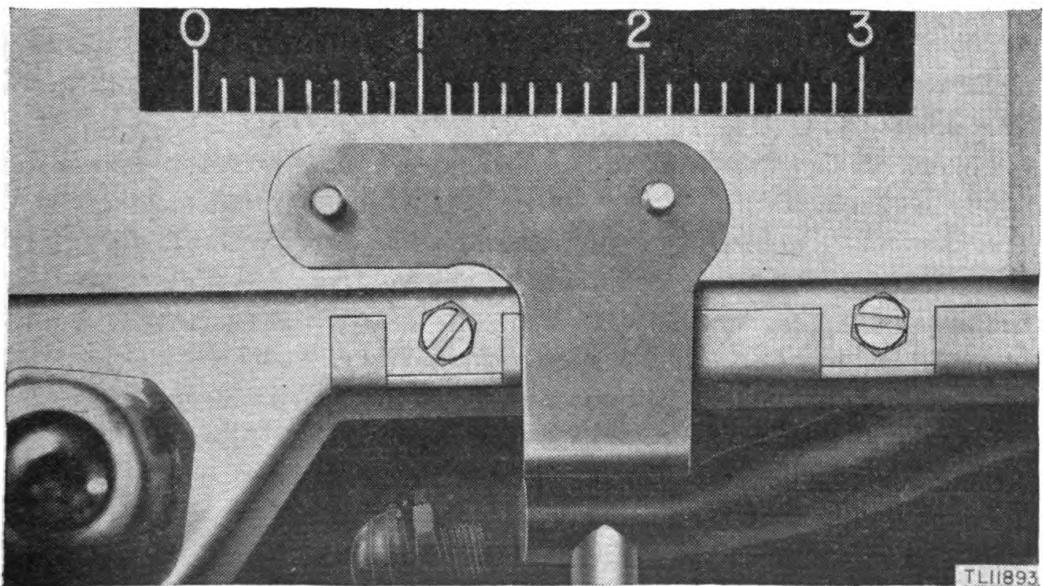

FIGURE 19.1.—Front view of bracket for battery vent tube.
- (1) Examine the rubber vent tube and replace if necessary.
- (2) Make sure the battery vent holes are clear.
- (3) Make sure the battery filler cap is in place.
- (4) Always keep the set in a vertical position to prevent spilling of the battery electrolyte.
21.2. (Added.) Securing battery vent tube.—a. Radio Sets SCR-593-A and SCR-593-C have often been damaged because the battery vent tube has become disconnected, allowing acid fumes from the battery to destroy various parts of the sets. To prevent this destruction, a battery vent bracket has been designed to hold the tube in place. (See fig. 19.1). This new part can be ordered through regular channels:
(4) Install the battery vent bracket as shown in figure 19.1, so that the screws for the battery retainer bracket pass through the holes in the vent bracket, and the right angle offset rests on the rubber vent tube.
(5) Replace battery retainer bracket in its original position.
(6) Replace and tighten nuts on screws.
(7) Close case of set.